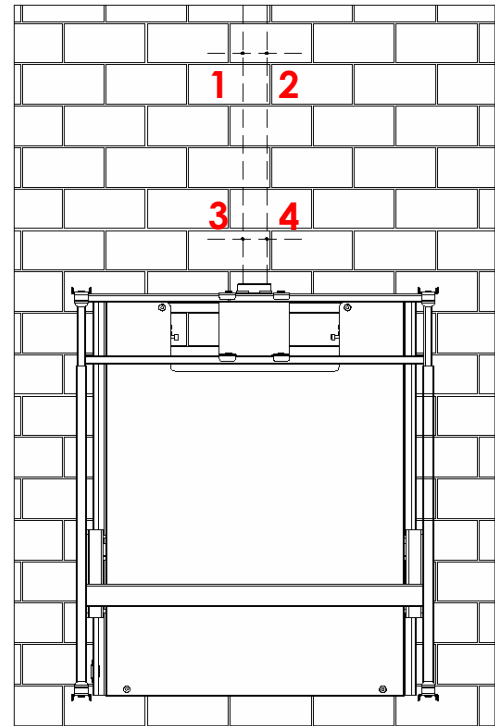

Figure 13.1
- 3) Mark the centers of the Slider Plate's **Wall Holes** (see figure 13.1) onto the wall. Make sure the sliders plate is sitting on the Mid Section.
- 4) Remove the Slider Plate and Slider Bracket (figure 13.1).